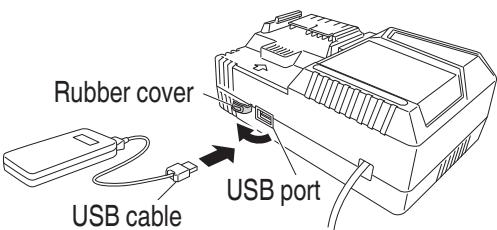

Fig. 13
(2) Connect the USB cable. (**Fig. 13**)